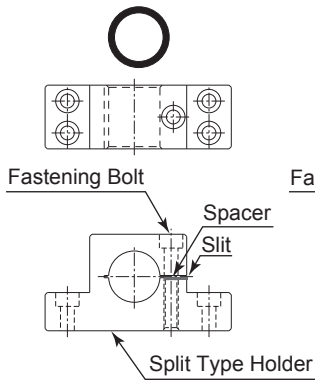
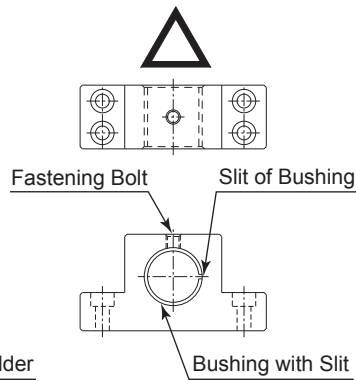

Fig. 7
Fig. 8
- ② When installing a Spindle to the holder, recommended installation method is shown Fig 7. Refer to " ③ How to fabricate the Split Type Holder ". If this is not possible, install as shown in Fig. 8.